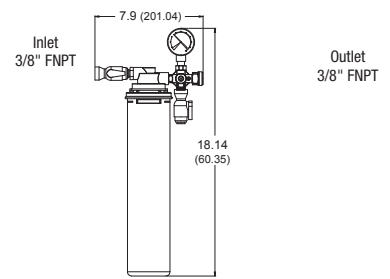

Figure 5 – Single System
- Use the predrilled mounting holes in the manifold bracket as guides. Mark and drill anchor holes. Mount securely. See Figures 5 – 8.